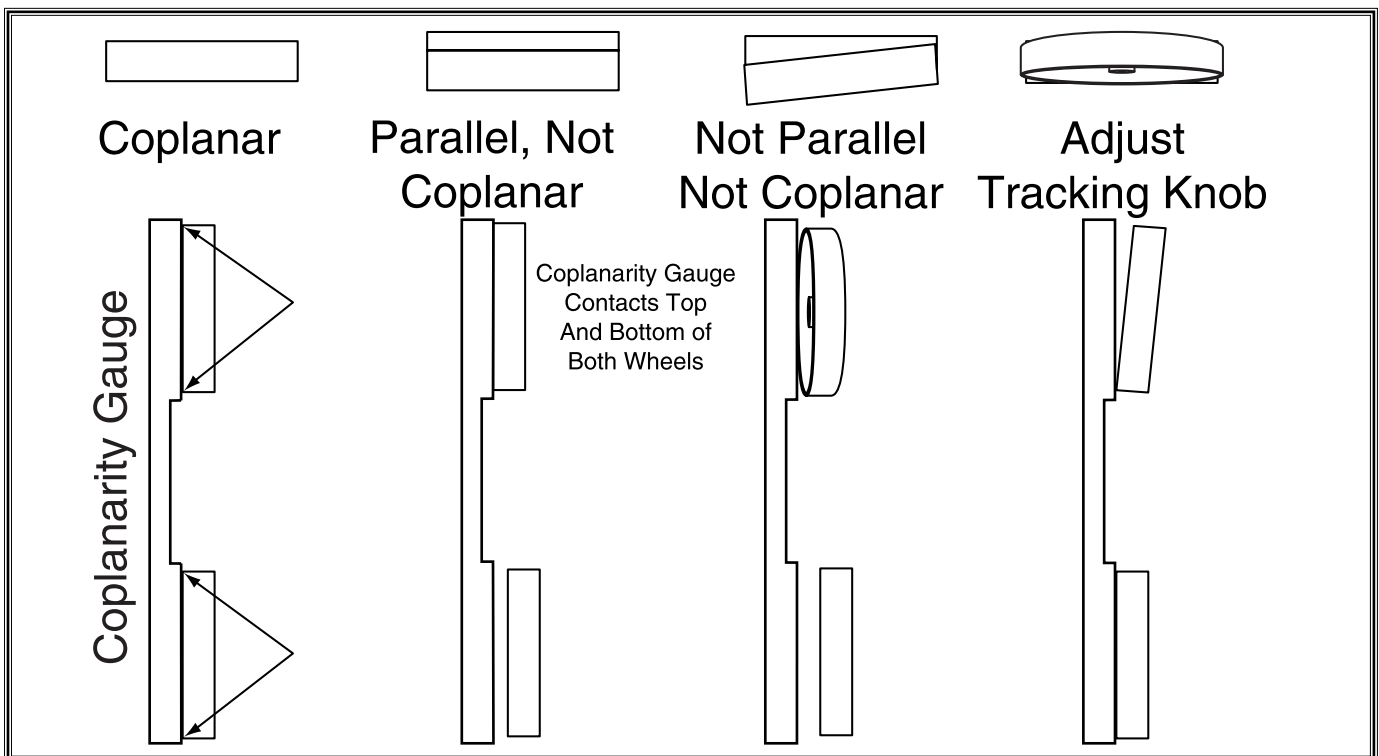

Figure 36. Coplanarity diagram.
8. **Figure 36** shows the positions of the wheels when they are coplanar. When your wheels are coplanar, readjust the guide blocks and rear support bearings, and replace the wheel covers.